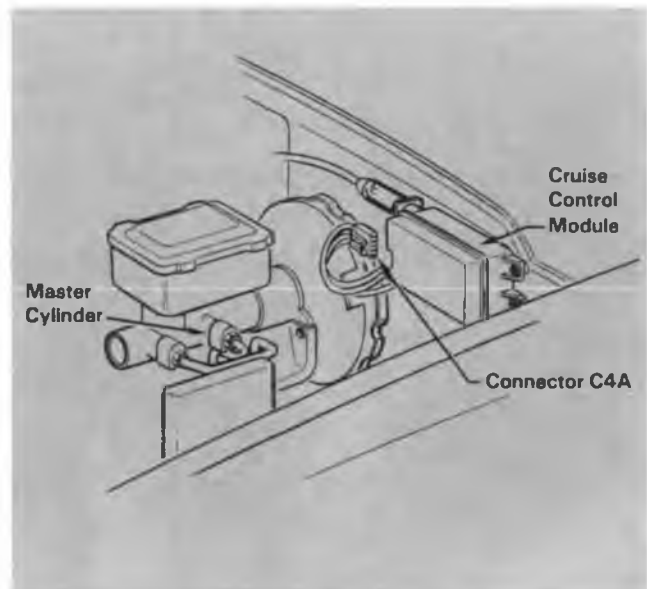

Figure 4-8 Cruise Module Location: Engine Compartment Bulkhead
3. Check Convenience Center connector C5A and Cruise Module connector C4A for proper connection (see Figures 4-8, 4-9).